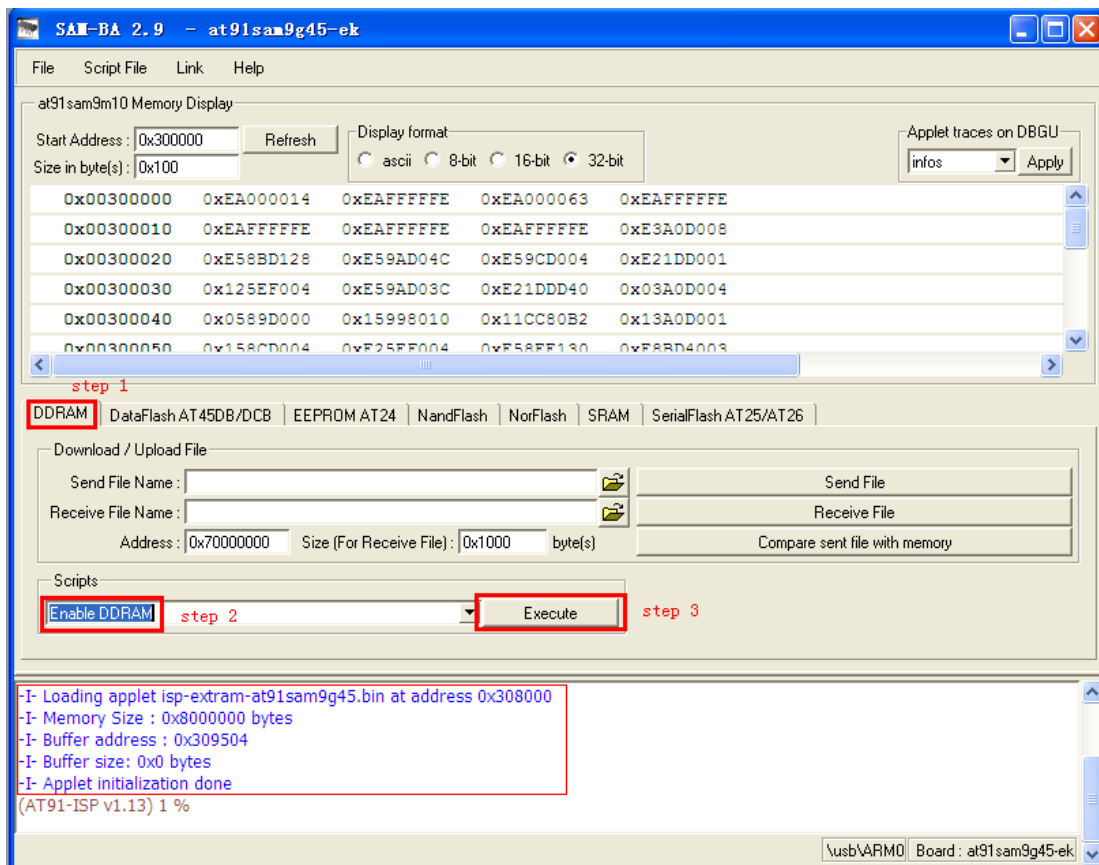

Figure 3-18
(1) Refer to download image ways, start SAM-Ba and connect board. Then select “**DDRAM**” and “**Enable DDRAM**” in Script, click “**Execute**” to initialize DDRAM. Refer to figure 3-18: